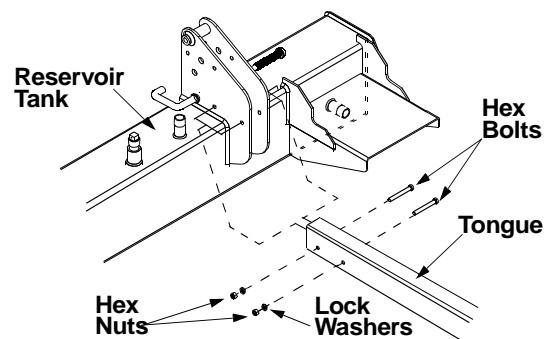

Figure 6
- Remove two hex bolts, lock washers, and hex nuts on the front of the reservoir tank. See Figure 6.